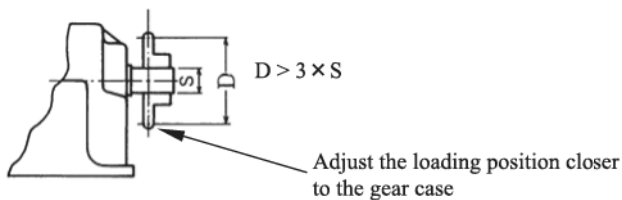

Fig. 4 Sprocket mounting position
- (3) To prevent damage caused by overhang load, adjust the positions of the sprocket, gear, pulley, etc. so that the loading position can be closer to the joint of the output shaft and the gear case (refer to Fig.4).